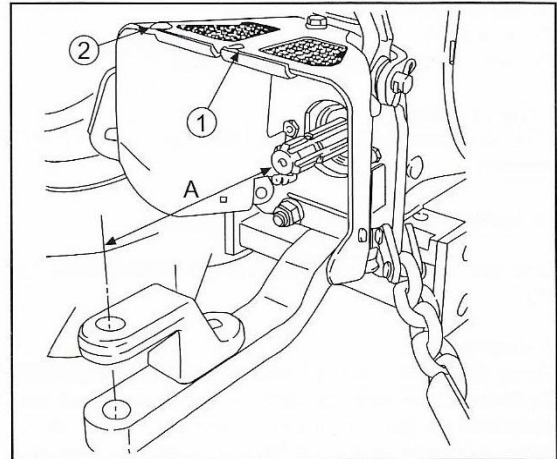

Fig. 43
3. Ensure that all the guards are in place. A slot (1, Fig. 43) is provided in the top of the PTO guard to enable the driveline shield to be bolted to the tractor when pull-type PTO driven equipment is being used. A hole (2) is also provided for the PTO driveline shield chain.